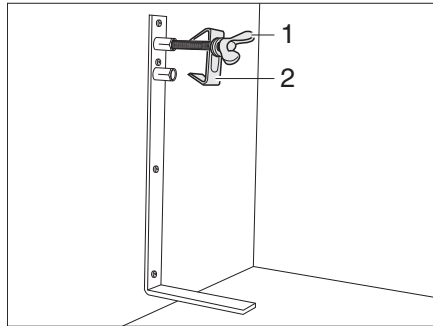

Fig. 173 Spare wheel support
- Loosen the screw (Fig. 173,1) and remove the centring device (Fig. 173,2).